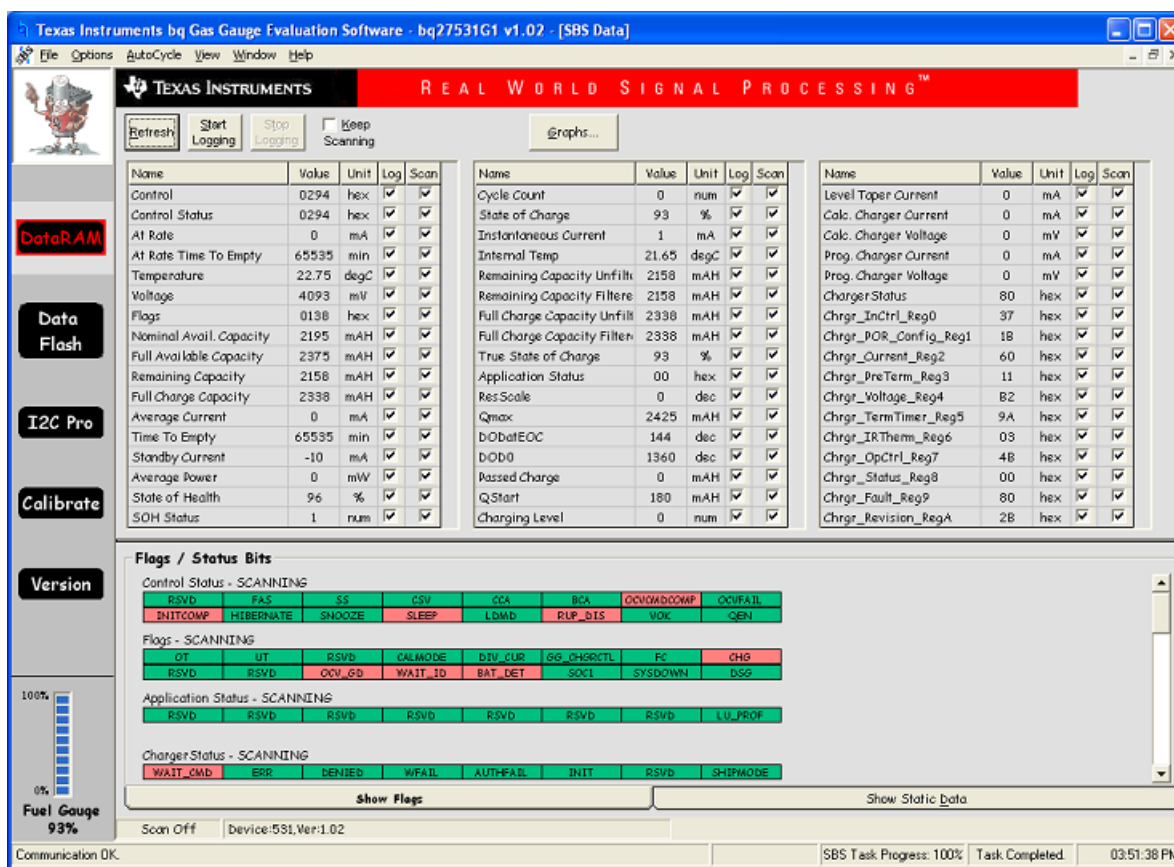

Figure 9. DataRAM Screen
- Turn on the computer. Open the bq27531 evaluation software. The main window of the software is shown in Figure 9 (DataRAM Screen).
Run bq27531 EVSW from the Start | Programs | Texas Instruments | bq Evaluation Software menu sequence. The DataRAM screen (Figure 9) appears. Data begins to appear once the <Refresh> (single time scan) button is clicked, or when the <Keep Scanning> check box is checked. To disable the scan feature, deselect <Keep Scanning>.
This screen (Figure 9) shows the RAM data set. Additional Flag and Status data can be viewed at the bottom of the DataRAM screen.